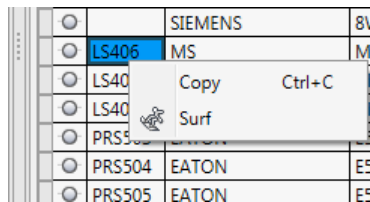

Figure 2-77 Shortcut menu displayed
2. Scroll down in the **PROJECT MANAGER** and select **LS406** from the **Tag** column. Next, right-click on it; a shortcut menu is displayed, as shown in Figure 2-77.